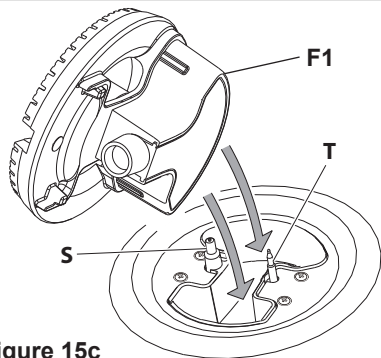

Figure 15c
It is very important to check that the burner flame spreader “F1”, “F2” or “F3” and the caps “A”, “B” have been correctly positioned (see figs. 15c, 15d, 15e, 15f, 15g). Failure to do so can cause serious problems.
- Fit the flame spreader to the housing: the burner ribs must be fitted in their housing as shown by the arrows (see figs. 15c, 15d or 15e).